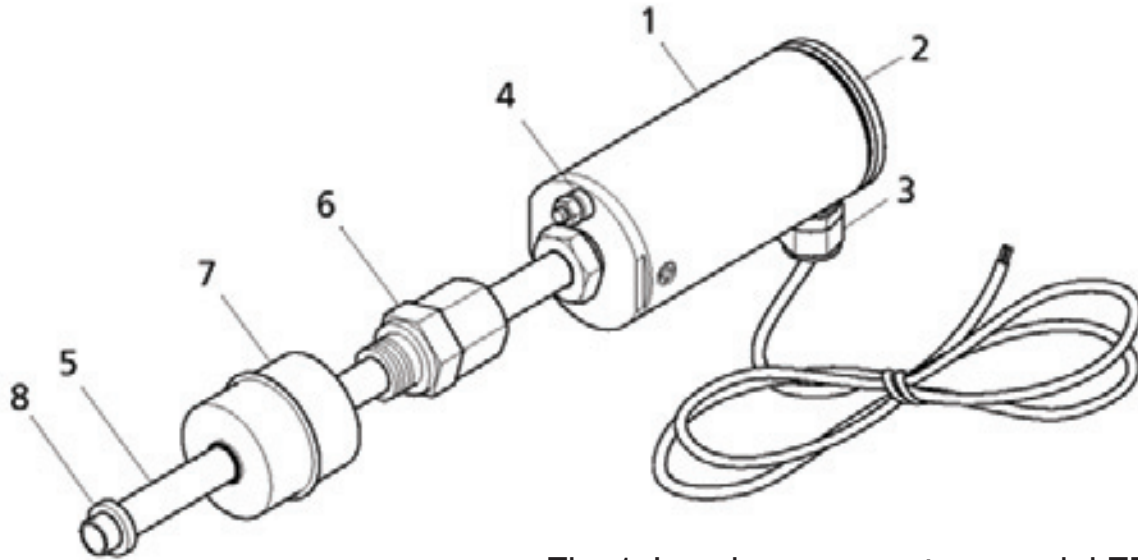

Fig. 1: Level sensor system model FFG
The design of the level sensor system is shown in figure 1 in the form of embodiment furnished with a screwed-in element. Provided in the probe head (1) is the area of connection and adjustment protected by lid (2). The electrical connection is via an M16x1.5 cable gland (3) at the top of the probe head while the earth connection (4) is at the bottom of the probe head. Seated on the probe tube (5) for vertically adjustable assembling purposes, within the container, is a compression fitting (6) (G 1/2, W 27) or a flange (not shown). The float (7) serves for continuously gauging the product level or interface layer, and is held on the probe tube by a guiding or locking ring (8) etc.